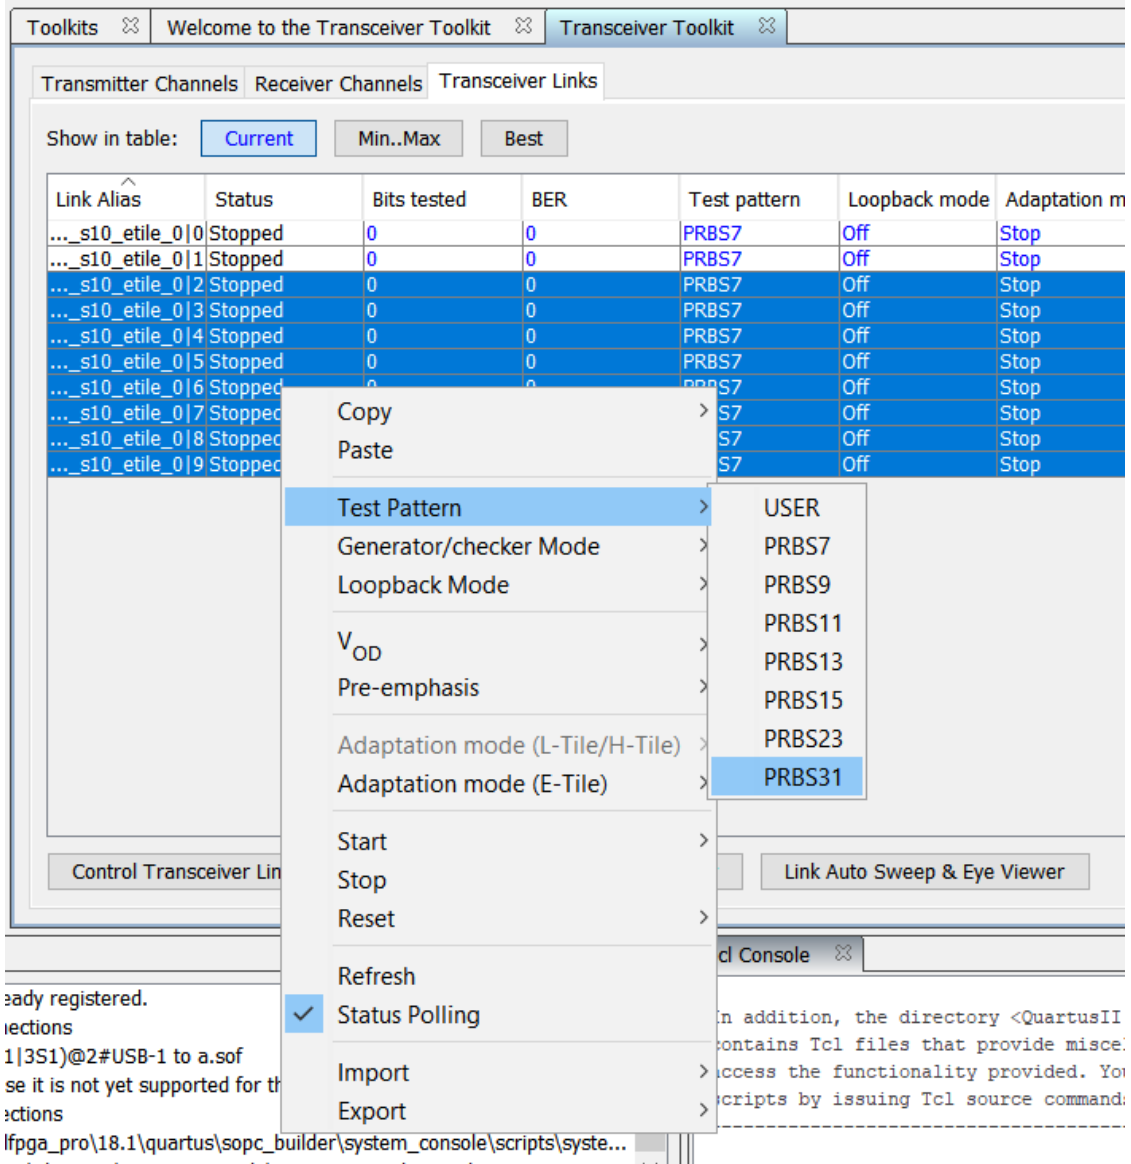

Figure 6. Selecting the target test pattern
7. Go to the Transceiver Links tab. Select the 8 PAM4 channels -> right click -> Test Pattern. Then select your target Test Pattern. In this example, PRBS31 pattern is selected as shown in Figure 6